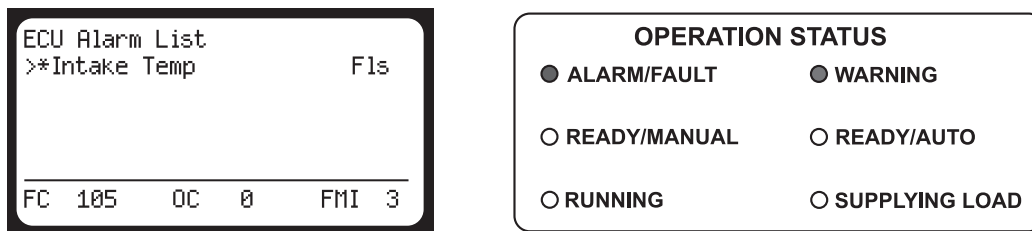

Figure 1
Press the "▲" scroll-up button (on the diagnostic keypad) to view the "ECU Alarm List." This will allow the operator to view a description of the fault, along with the diagnostic trouble codes located at the bottom of the display. Refer to Figure 1. To further identify a fault by using these codes, refer to the John Deere Operators Manual supplied with the unit. To resume operation, the fault condition must be resolved and the code cleared from the display.
***Note:** The Suspect Parameter Number (SPN) is displayed as “FC” on the bottom left of the LCD window. Refer to Figure 1.